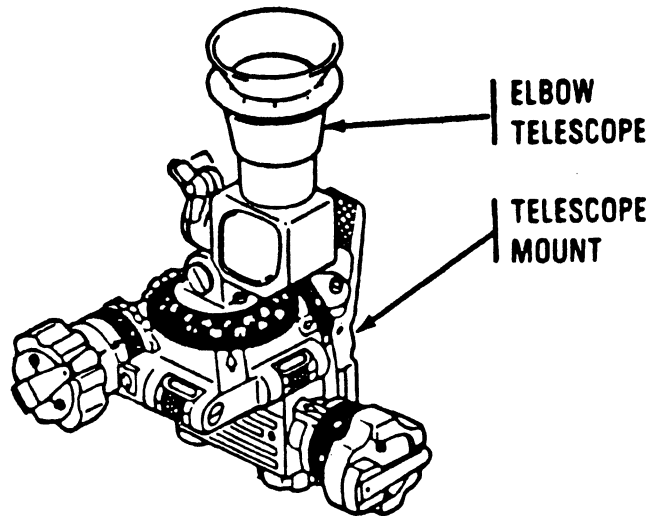

Fig 2-1. Elbow telescope and telescope mount.
The M64A1 sight unit (fig 2-1) has two major parts: the elbow telescope and the telescope mount. The elbow telescope has an illuminated crossline. The telescope mount has a series of scales, control knobs, cranks, locking knobs, locking latch, and dovetail. The sight unit is lightweight and portable.
a. The Elbow Telescope. The elbow telescope (fig 2-1) consists of a clamping mechanism, rubberized eyeshield and the telescope itself. The elbow telescope is considered the sight unit's upper section.
- (1) The elbow telescope is a fix focused, 1.5 power telescope. When looking through the telescope you will see a vertical and horizontal crossline. You will only concern yourself with the vertical crossline. No matter how the telescope is positioned, there will always be a vertical crossline. The elbow telescope can be placed in any one of three positions; "left", "right", or "up". As the gunner, you may use either the "left" or "up" position when aiming points are to the front of the gun or the "right" or "up" position when aiming points are to the rear. Another factor which determines what position you use is your height. A shorter gunner may wish to use the "left" or "right" position, but a taller gunner may find the "up" position more comfortable.
(2) The clamping mechanism which is located on the elbow telescope is used to secure the telescope in the desired position and to adjust the angle of sight. The clamping mechanism consists of a wing nut and the telescope locking latch.